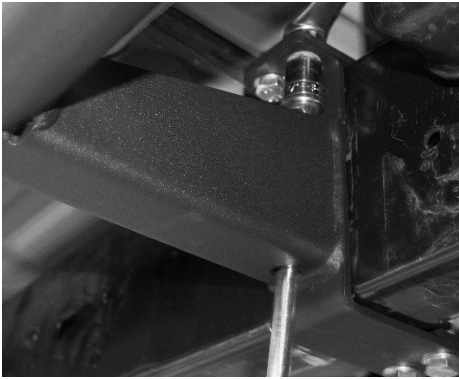

Figure 9
9. Begin tightening the four **M10 Hex Bolts** and **M10 Hex Nuts** to bring the brackets together and the **Rock Rail Assembly** into place on the frame, but do not fully tighten them yet. *A socket extension can be used through the bottom hole of the brackets with a swivel joint adapter to aid in tightening the hardware at the top end of the bracket. Refer to Figure 9.*